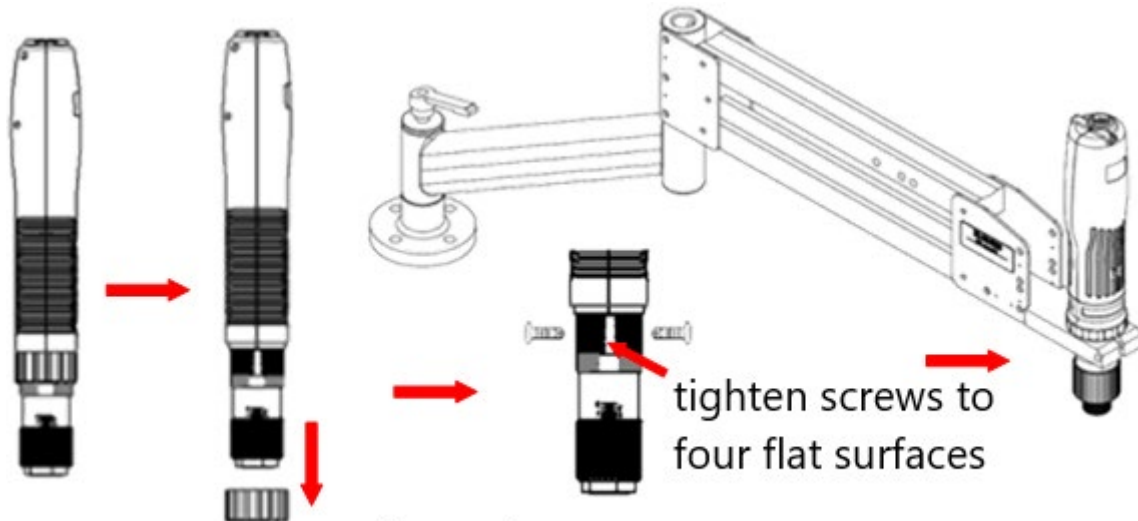

figure 1
The clamp fixed position for 3cm Nylon Fixed-Wire is at 235mm start count from the top of the screwdriver flat surface (for direct cable), as shown in Figure 1.
- 8-1 Remove coupler from screwdriver carefully (see figure 1)